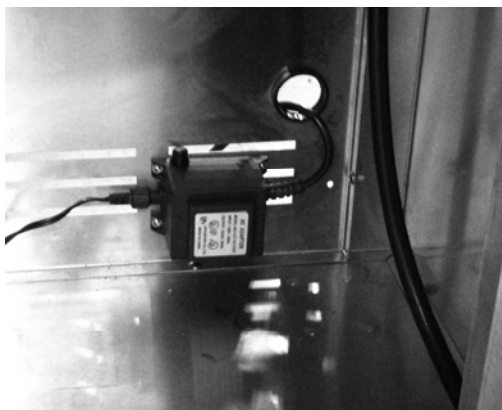

Fig. 1
- In a base cart application, four mounting screws with nuts are provided at the bottom right rear corner of the cart. If not provided, drill four holes using the transformer box as a template. Secure the transformer box as shown. (Fig. 1)